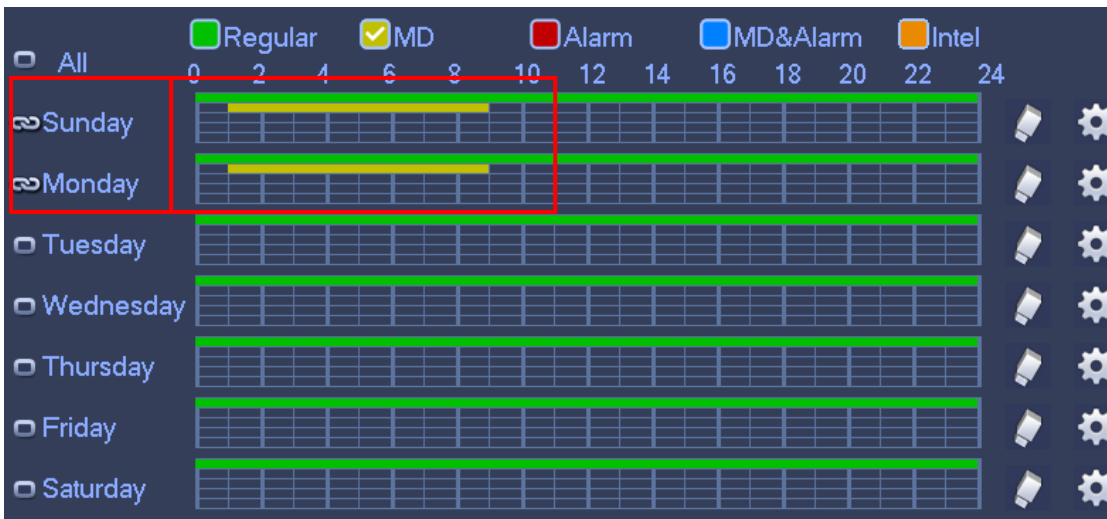

Figure 4-43
- ✧ Please draw manually to set record period. There are six periods in one day. See Figure 4-43.